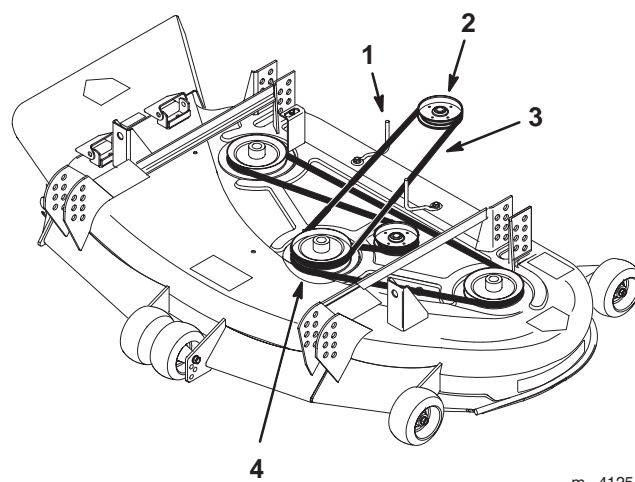

Figure 4
2. Install the drive belt around the drive pulley on the traction unit and the upper groove of the center spindle pulley. The belt must be between the belt guides (Fig. 4).